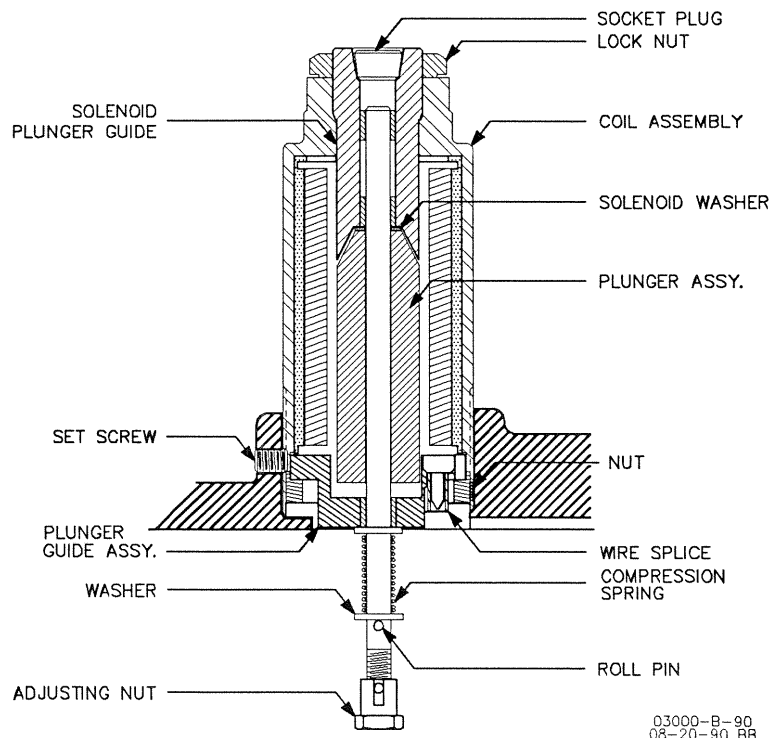

Figure 2. Vibration-Resistant De-energize to Shut Down
1. Position the shutdown rod assembly in the solenoid plunger with the end of the plunger friction screw 3 mm (1/8 inch) inside the plunger nose as shown in Figure 2. This adjustment is necessary only when the shutdown device has been disassembled for cleaning or replacing parts. New assemblies from the factory will have this adjustment completed.